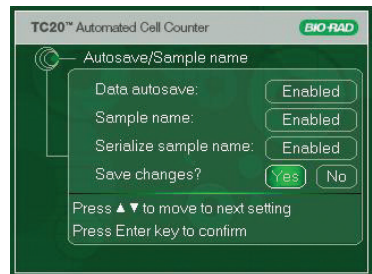

Fig. 8. Setting up data export and sample naming.
2. Press the **down** arrow key to go to **Autosave/Sample name** (Figure 8), and press **Enter**.